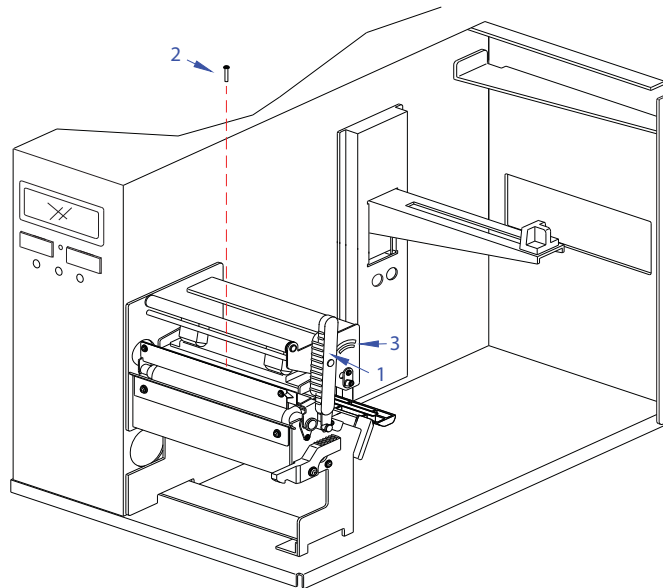

Figure 7-1a, Print Head Replacement
- 2 Open the right housing cover and latch print head release lever (1, Figure 7-1a) as necessary.
- 7 Insert replacement print head (4) into print assembly (3) and latch lever (1, Figure 7-1a).